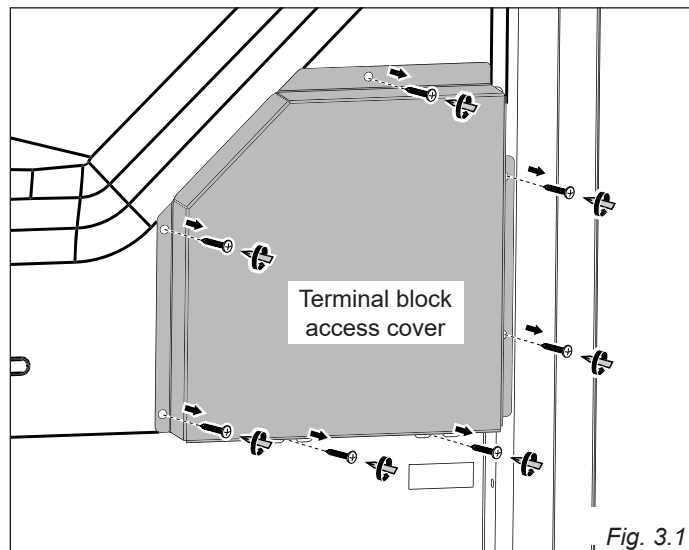

Fig. 3.1
- Units may be hard wired to the power supply. The installer must provide approved flexible aluminum conduit, 1/2" (13mm) trade size, maximum 6ft (1.8m) long. Locate the terminal block on the rear of the unit and remove the terminal block access cover (fig. 3.1).
- Reinstall the Terminal Block cover (fig. 3.1).